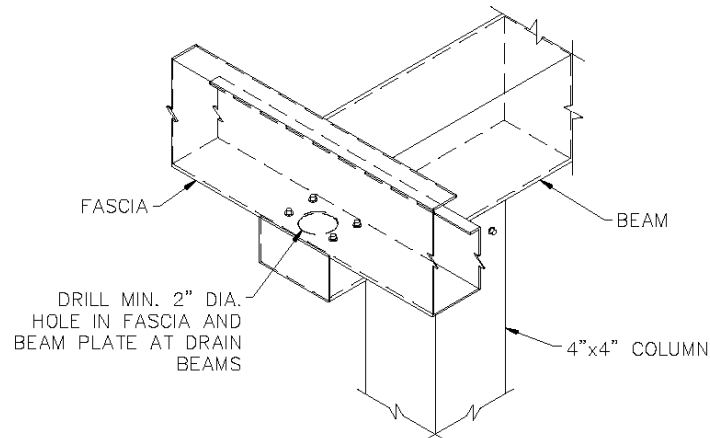

FIGURE 11
- A. Using a 2" hole saw, drill a hole in the fascia over each beam that drains (Figure 11). Be sure to drill completely through the fascia and plate welded in the beam to create a clean hole.